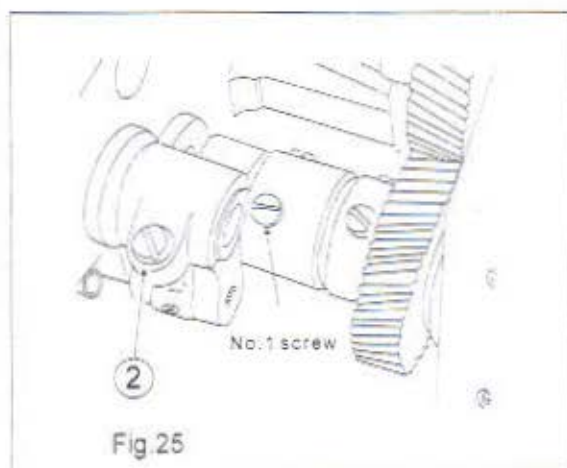

Fig.25
21. The timing of needle guard (Fig 25)